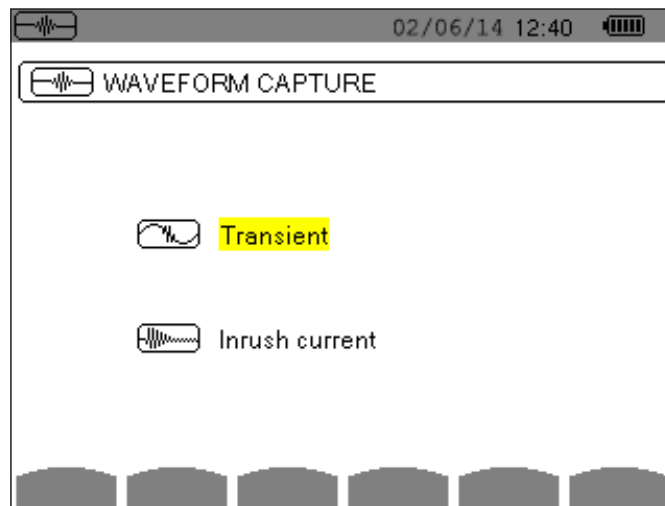

Figure 5-1
To program the search for a transient, select **Transient** by pressing the  button in the Waveform Capture screen (see Figure 5-1). The Detection Schedule screen is displayed.
- At the Waveform Capture screen (Figure 5-1), select Inrush Current. The Capture Schedule screen is displayed.